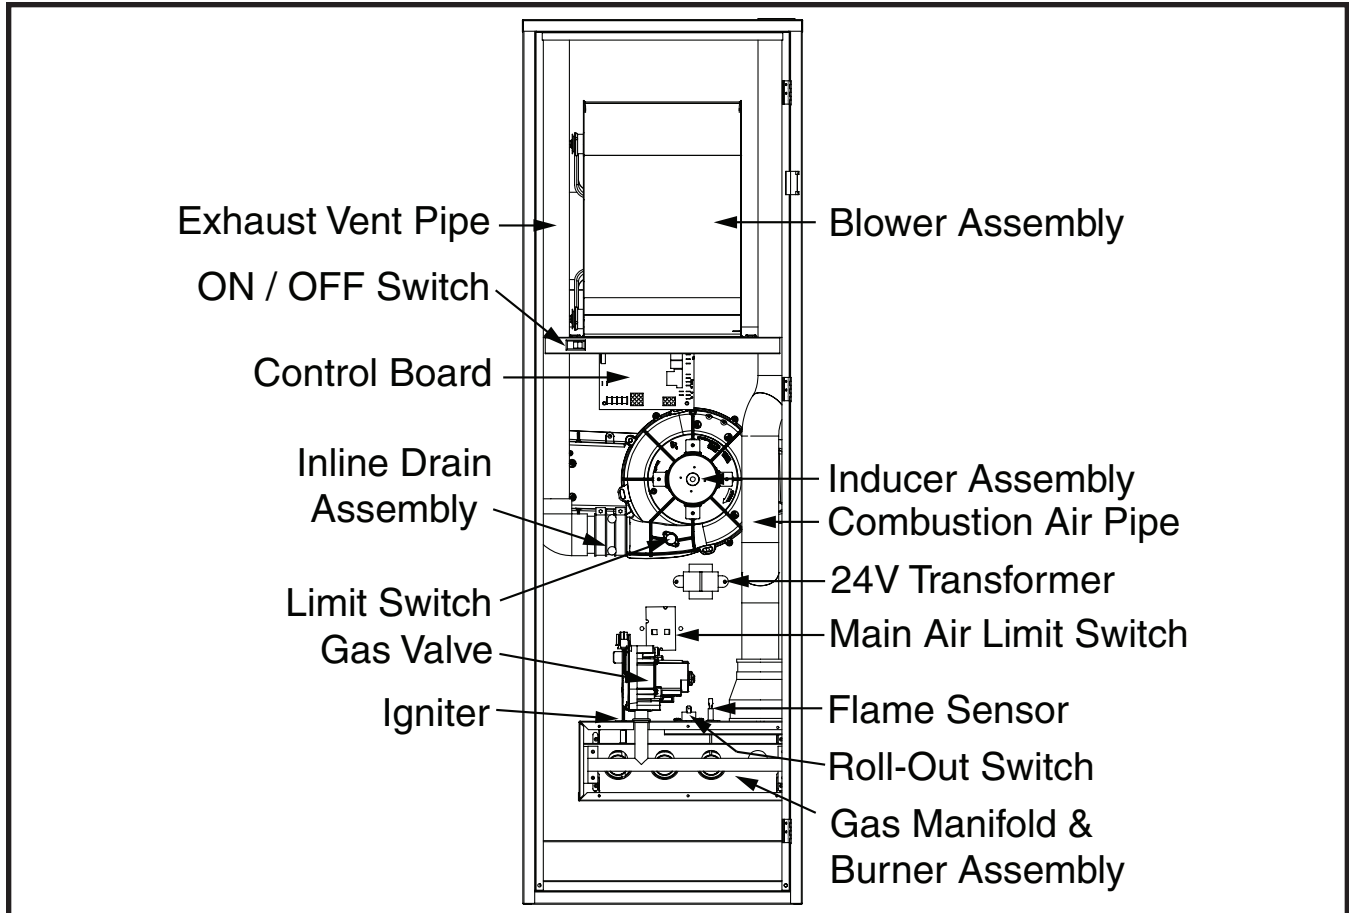

Figure 3. CMF95 Furnace Components
2. Is the ON / OFF switch inside the front door turned on? See Figure 3 (page 8) for switch location.
See Figure 3 (page 8) for switch location.
5. Set the ON / OFF switch to OFF. See Figure 3 (page 8) for switch location.
The furnace components shown in Figure 3 will help identify and locate various parts of the furnace. The component you need to familiarize yourself with is the gas valve. You will use this to turn the furnace on and off. There are no user serviceable parts. All repairs must be done by a licensed HVAC technician.